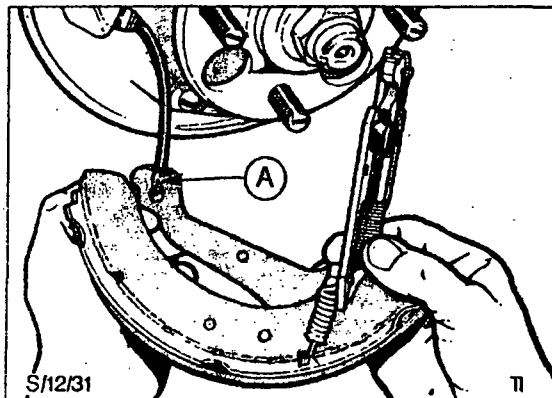

Fig.29. Detach handbrake cable from relay arm.
3. Remove hold down clip and spring from trailing shoe, swing shoe and handbrake lever out to detach cable, Fig.29. Remove self adjuster from shoe.